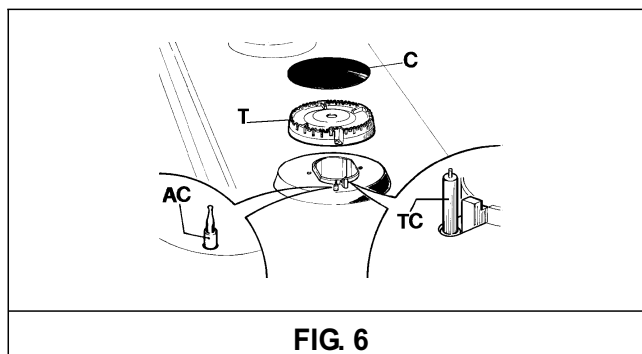

FIG. 6
Periodically wash the hot plate, the enamelled steel pan support, the enamelled burner caps "C" and the burner heads "T" (see fig. 6) with lukewarm soapy water. Following this, all parts should be thoroughly rinsed and dried. Never wash them while they are still warm and never use abrasive powders. Do not allow vinegar, coffee, milk, salted water, lemon or tomato juice from remaining in contact with the enamelled surfaces for long periods of time.
- *Check that enamelled burner cap "C" (fig. 6) have correctly positioned on the burner head. It must be steady.*